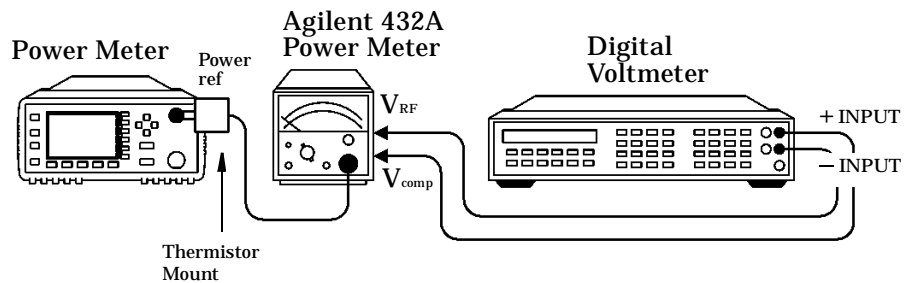

Figure 3-3: Adjustment Setup
<ol style="list-style-type: none">1. Set up the DVM to measure resistance. Connect the DVM between the V_{RF} connector on the rear panel of the Agilent 432A and pin 1 on the thermistor mount end of the sensor cable. Verify that no power is applied to the Agilent 478A2. Round off the DVM reading to two decimal places and record this value as the internal bridge resistance (R) of the test power meter (approximately 200 Ω).<ul style="list-style-type: none">• R (Internal Bridge Resistance)_____ Ω3. Connect the equipment as shown in Figure 3-3. The leads should be isolated from ground. Ensure that the power reference oscillator is off. Ensure that both the power meter under test and the Agilent 432A have been powered on for at least 30 minutes before proceeding to the next step.4. Set the Agilent 432A range switch to coarse zero and adjust the front panel coarse zero control to obtain a zero meter indication.5. Fine zero the Agilent 432A on the most sensitive range, then set the range switch to 1 mW.